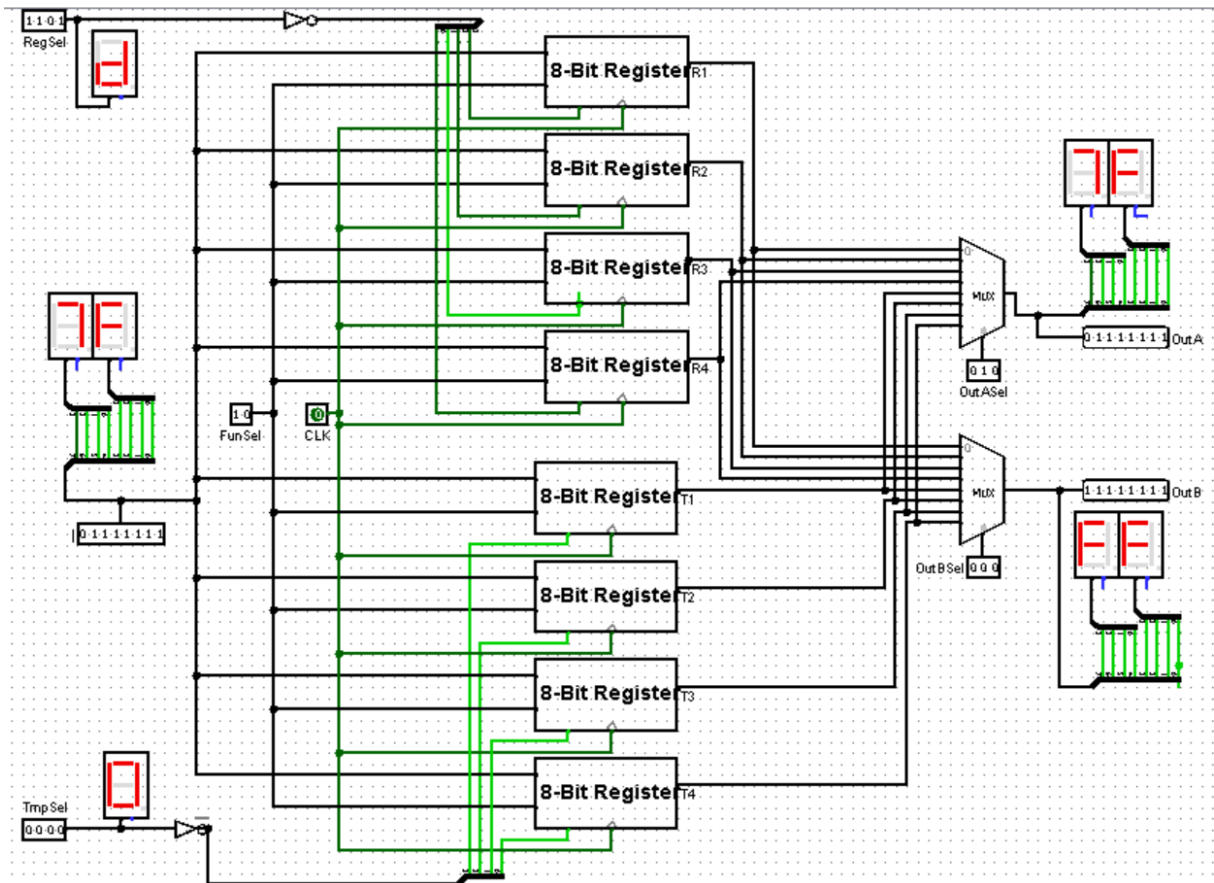

Figure 25: Register File in the Logisim Circuit while applying third test case datas to design
- And if we enter the Register file during the simulation, we can see our Register2 output = 0x7F, and in the Register1 output = FF following Figure 25.